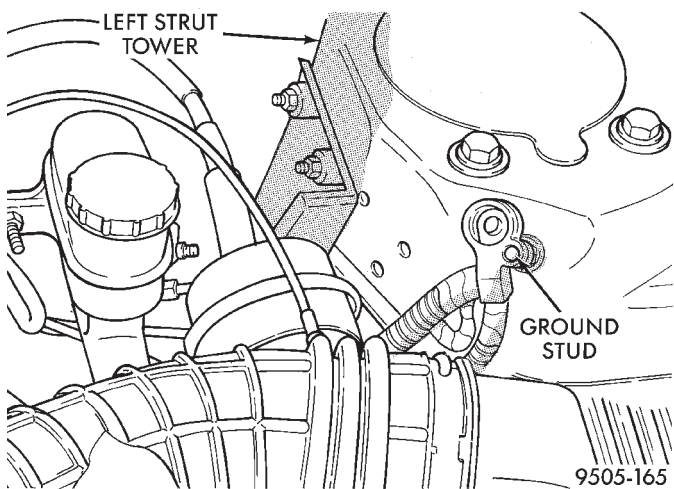

Fig. 54 Correctly Isolated Remote Ground Cable
- (2) Correctly isolate remote ground cable when servicing vehicle by installing the ground cable insulator on the strut tower ground stud as shown (Fig. 54).